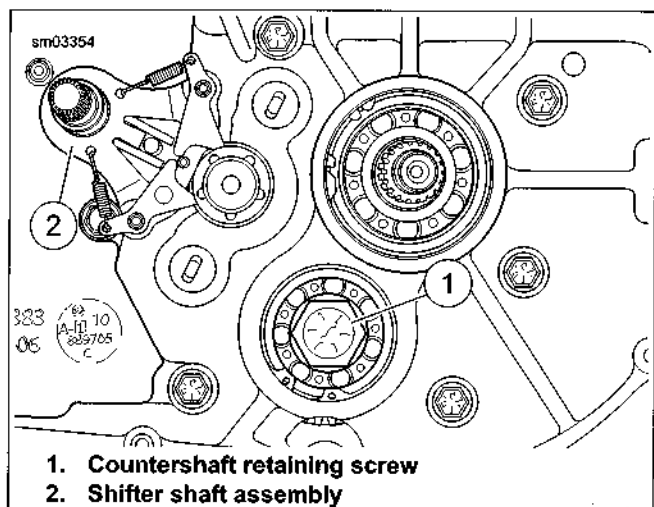

Figure 5-22. Countershaft Retaining Screw
7. See Figure 5-22. Place transmission in 1st gear. Remove countershaft retaining screw (1).